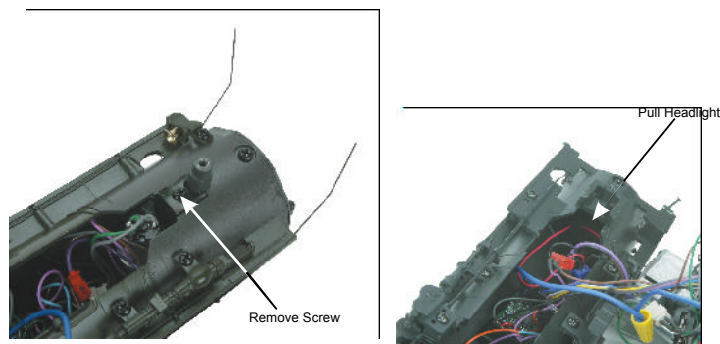

Figure 7
1. To replace the headlight in this model you will need to follow the boiler disassembly instructions on pg. 12. Once the boiler is removed you can access the wires for the headlight by removing the connector boxes (see figure 7).